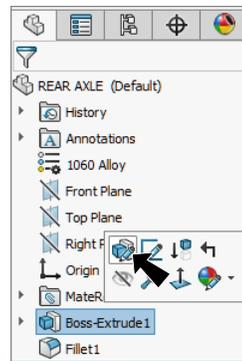

Fig. 13
- Step 1. Click **Boss-Extrude1** in the Feature Manager and click **Edit Feature**  in the context toolbar, Fig. 13.